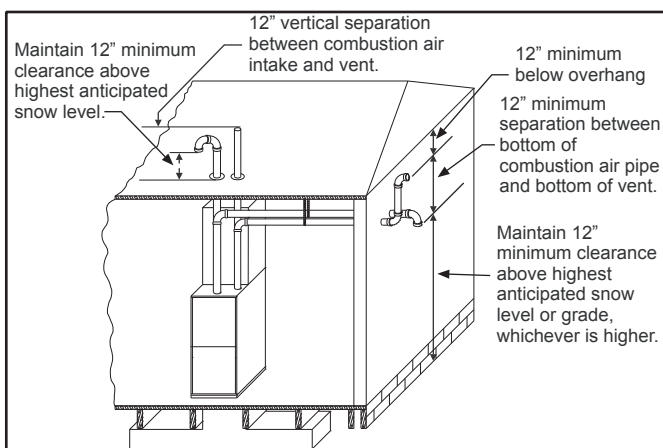
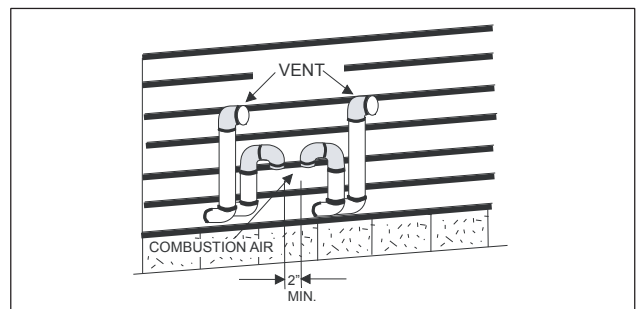

Fig 21: Termination Configuration - 2 Pipe
Fig 23: Double Horizontal Combustion Air Intake and Vent Termination
7. Direct vent systems must be installed so the vent and the combustion air pipes terminate in the same atmospheric zone. Refer to Figures 21 or 22.
The combustion air side of the two-pipe configuration shown in Figure 21 can be installed so the combustion air pipe terminates as described in outdoor combustion air or ventilated combustion air sections in these instructions. Follow the instructions for outdoor combustion air or ventilated combustion air and the instructions for installing the vent system with the vent terminating as shown in Figures 23 or 24. The two-pipe system must have a separate combustion air pipe and a separate vent pipe for each furnace. Under NO circumstances can the two combustion air or vent pipes be tied together. The combustion air and vent pipes must terminate in the same atmospheric zone.
- 1. OUTDOOR COMBUSTION AIR:** This is a direct vent configuration where the combustion air is supplied through a PVC or ABS pipe that is connected to the PVC coupling attached to the furnace and is terminated in the same atmospheric zone as the vent. This type of installation is approved on all models. Refer to Figure 23.
- 2. AMBIENT COMBUSTION AIR:** Combustion air is supplied from the area surrounding the furnace through openings in the furnace casing. The combustion air and the vent pipes are not terminated in the same atmospheric zone. Refer to Figure 21 for vent terminations. Refer to "Ambient Combustion Air Supply" for proper installation. Refer to Fig 23.